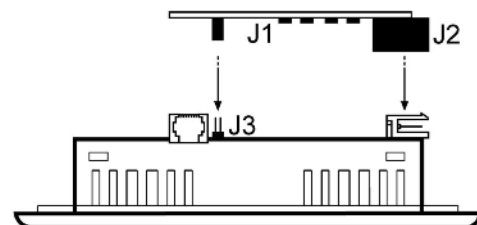

Figure 3. Installing the Module
4. Install the module by placing the J1 connector (female) of the module onto the J3 connector (male) on the controller card as shown in Figure 3. Make sure that the connection is secure.